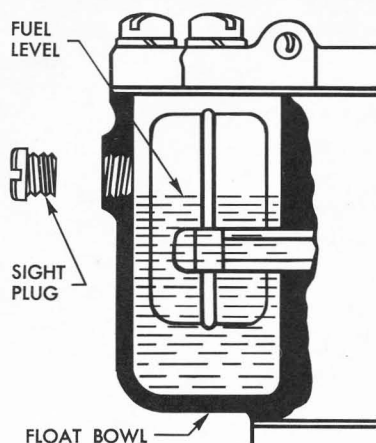

Figure 3-17—Float Bowl Fuel Level
2. With engine idling at normal operating temperature, the fuel in the bowl must be just high enough to wet the threads at the lower side of the sight hole. See figure 3-17.